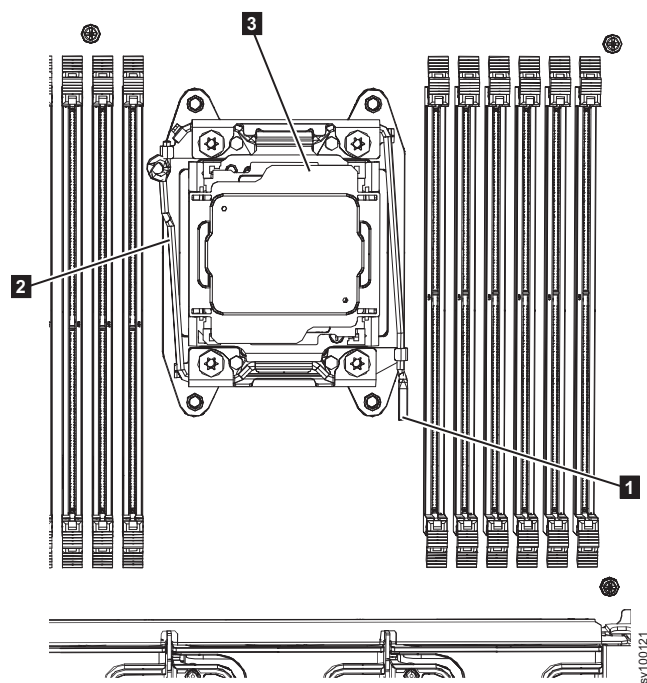

Figure 299. Opening the 2145-SV1 microprocessor bracket frame
1. Open the socket in preparation for inserting the microprocessor. Press down and in on the release lever (**1** in Figure 299 on page 361) as you did to remove the microprocessor. Then, lift the microprocessor-release lever 2 (**2**).